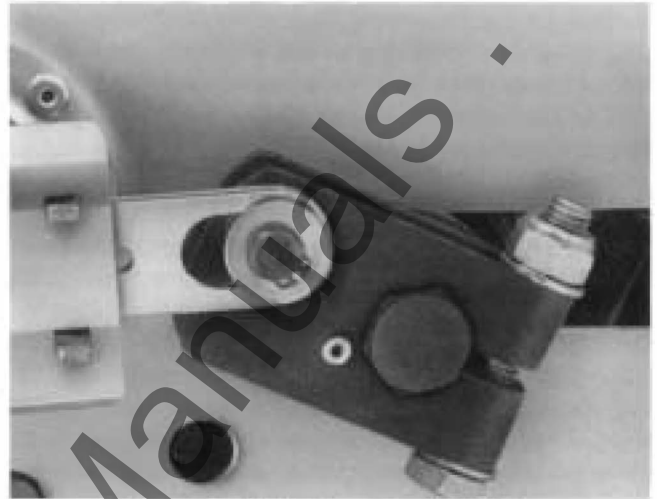

Figure 7: Lubrication — Spring Guides
Step 2. Lubricate the opening and closing spring guides (figure 7) with molybdenum disulfide grease.